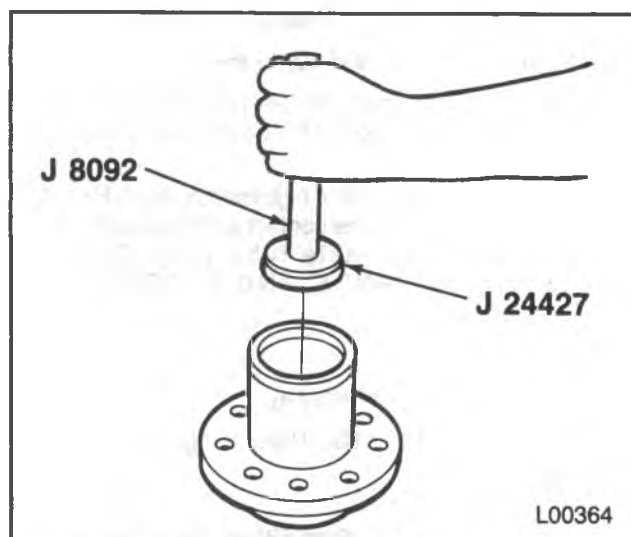

Figure 29 — Installing Inner Bearing Cup
- Inner bearing cup (46 or 61) using J 8092 and J 24427 (figure 29).